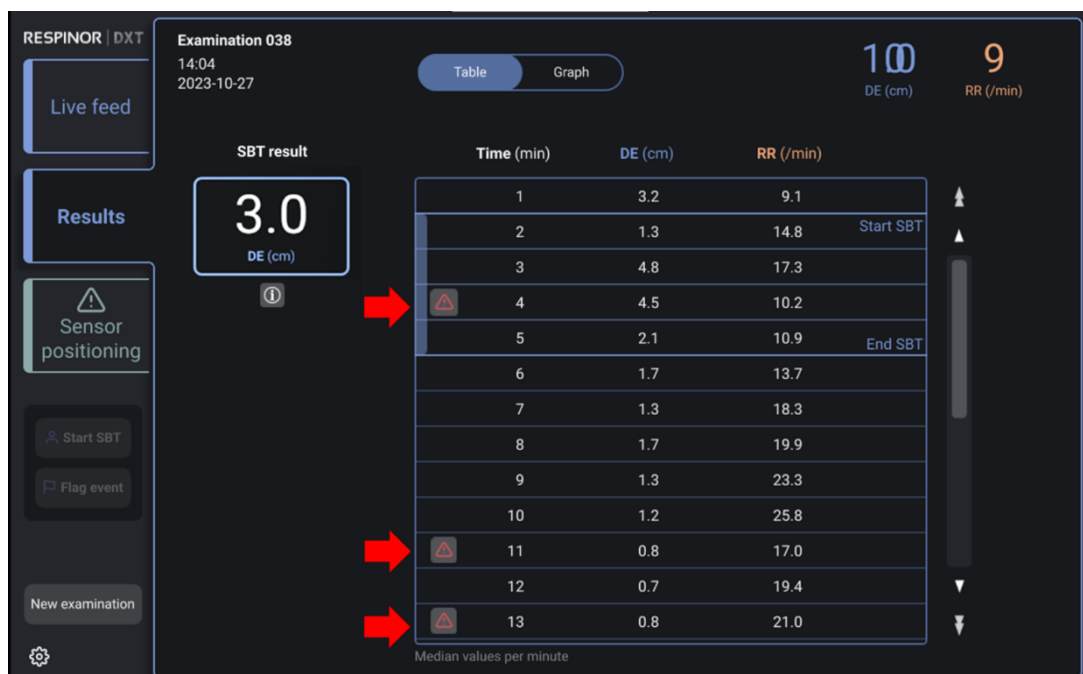

Figure 27. Warning messages in table view of results.
- This is indicated by a warning symbol (⚠) on the left side of the table, as indicated by the red arrows in Figure 27.